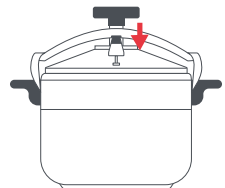

Fig. 10
1. Fit the rotary valve (22) on the chimney (23) (Fig. 10).
2. Turn the heat source up to its maximum power. If using a gas cooker, adjust the flame to prevent it spreading beyond the pot base. This will save energy and prevent deterioration of the side handles (9) and silicone sealing ring (8).
3. After a while, the pressure built up inside the pot will start to turn the rotary valve (22) and steam will start to be ejected. If you notice a small steam leak between the lid (1) and the body (11), turn the knob (33) clockwise